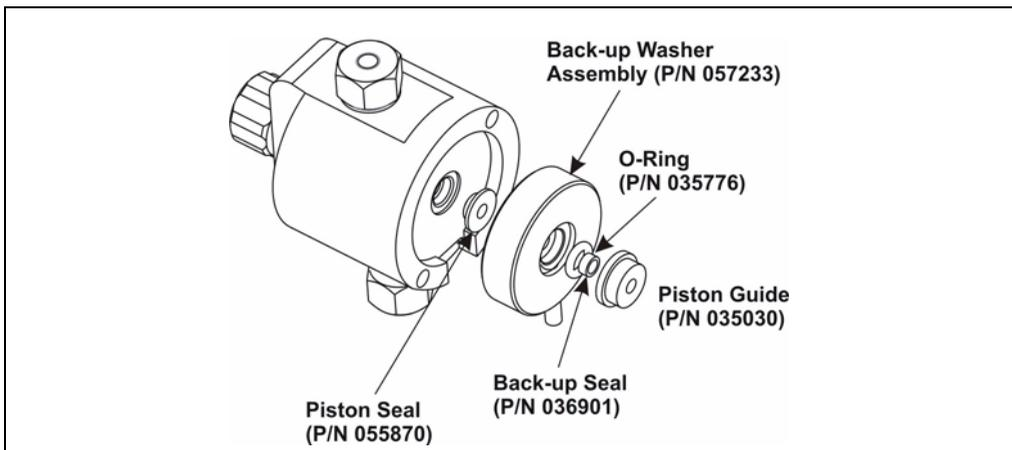

Figure 5-6. Pump Head Assembly
6. Place the head, front end down, on a clean work area. Lift off the piston guide and back-up washer to expose the seal (see Figure 5-6).
4. While holding the head firmly against the pump housing to compensate for the spring loading, remove the two nuts (see Figure 5-6).